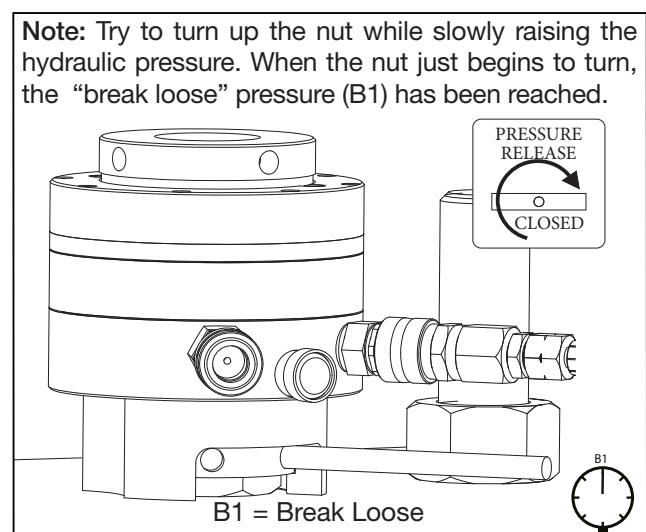

FIGURE 16, DETERMINING THE “BREAK LOOSE” PRESSURE
4. If no leaks are found, continue operating the pump. Slowly raise the pressure until the “break loose” hydraulic pressure value is reached. This is the pressure at which a nut on one of the tensioners just begins to loosen and can be turned by hand with the tommy bar. Record this pressure for reference. See Figure 16.